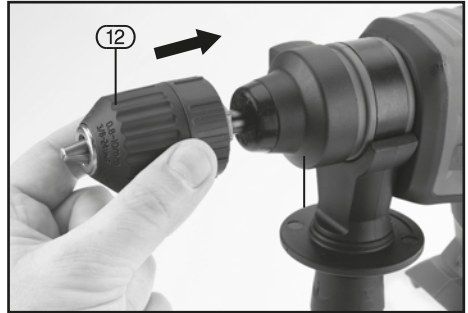

FIG.14
9.10 CHANGING TO A STANDARD CHUCK – FIGS. 14 – 15